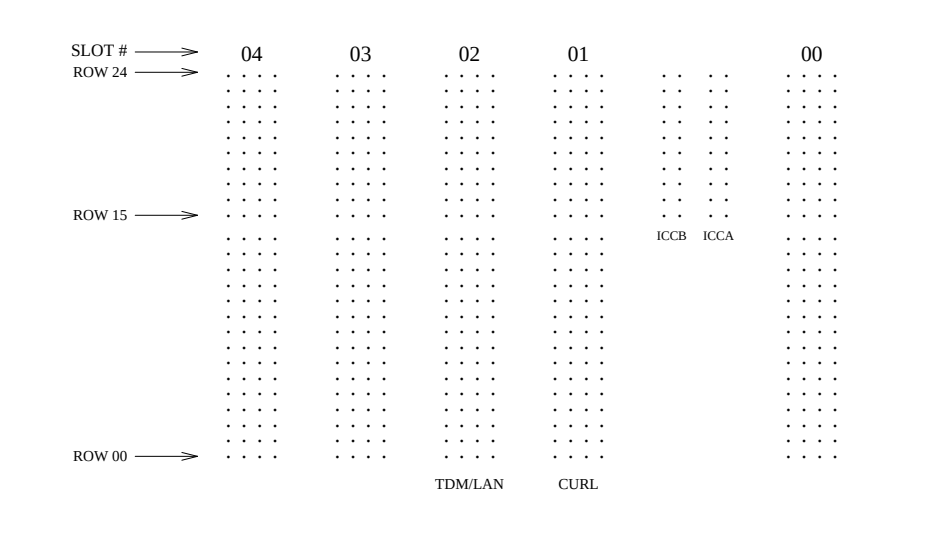
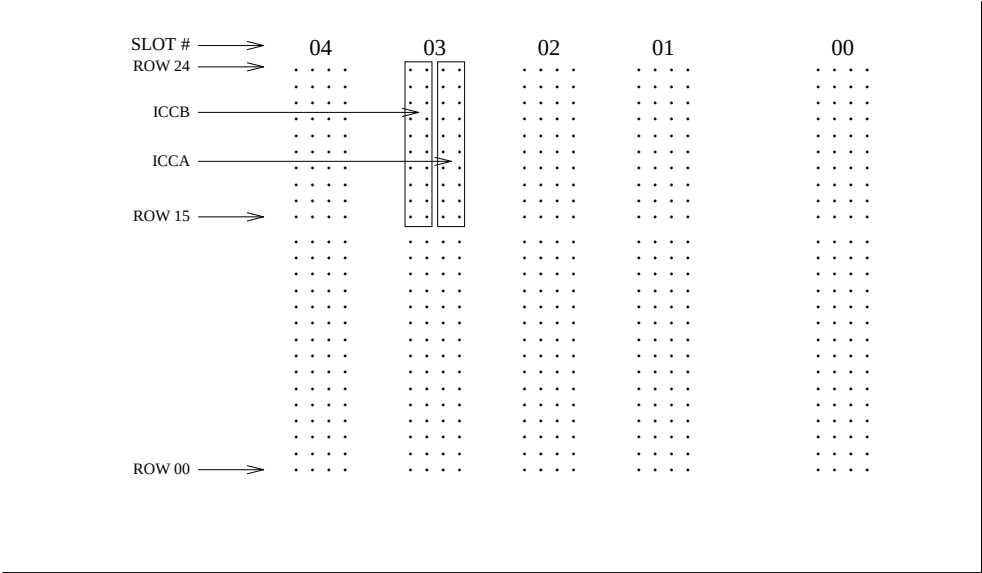

Figure 7-37. ICC Connections for Expansion Control Carrier
Figure 7-38. ICC Connections for Port Carrier
16. See CAUTION. Install the ICC cables (H600-204 G1) between carriers "A" and "B." Connect the cables to the "ICC" pin-field block on both carriers (see Figure 7-37 and Figure 7-38 and Table 7-12). The cable is installed so that the dark red, blue, or purple stripe (depending on the supplier) is on the bottom at both ends.